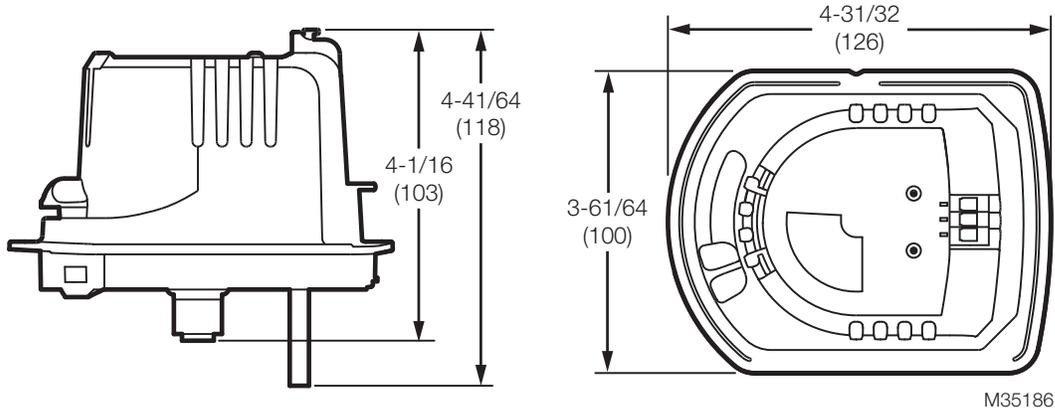

Fig. 1. Motor dimensions in inches (mm).
**Motor Dimensions:** See Fig. 1.